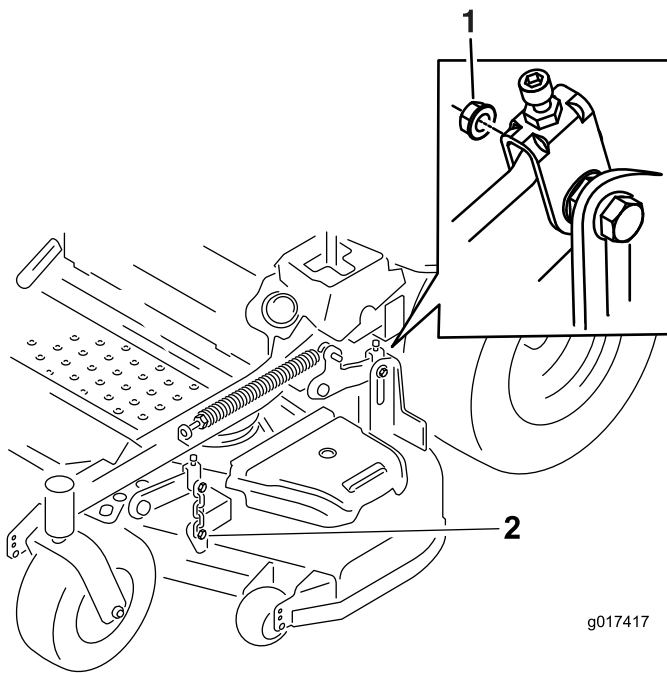

Figure 84
7. Remove and retain the hardware on both sides of the deck (Figure 84).